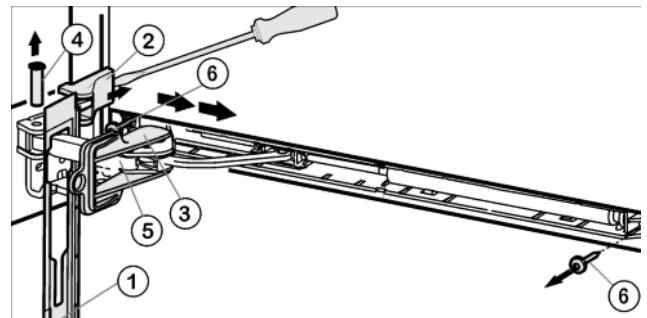

Fig. 5
- Slide the faceplate forwards over the soft stop bracket Fig. 5 (5) in the direction of the appliance.
- Snap the safety lock Fig. 5 (3) into the oblong hole.
- Using a screwdriver, lift off the cover Fig. 5 (2) from the outside and remove it in an outward direction.
- Press the pin Fig. 5 (4) out from underneath.
- Press the soft stop bracket Fig. 5 (5) towards the door.
- Remove the faceplate Fig. 5 (1).
- Unscrew the entire soft stop unit (2x Torx® 15) Fig. 5 (6).